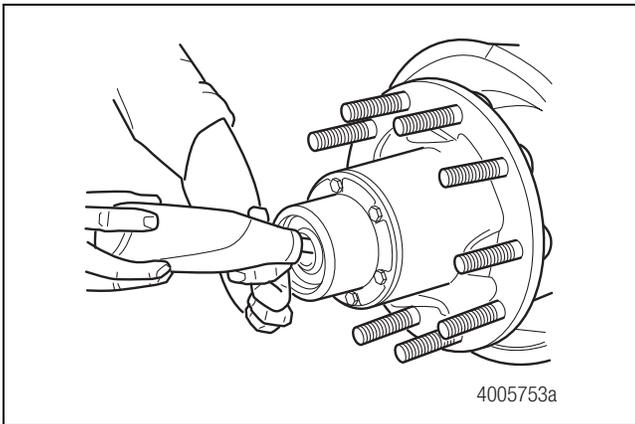

Figure 5.10
1. Fill the hub with oil through the hubcap or the fill hole if present. It may be necessary to add lubricant more than once to completely fill the hub. Use the oil approved by the component manufacturer for use with manually-adjusted bearings. Refer to the trailer or vehicle manufacturer for oil recommendations. Some hubs have a fill hole located in the barrel for adding lubricant. Figure 5.10.